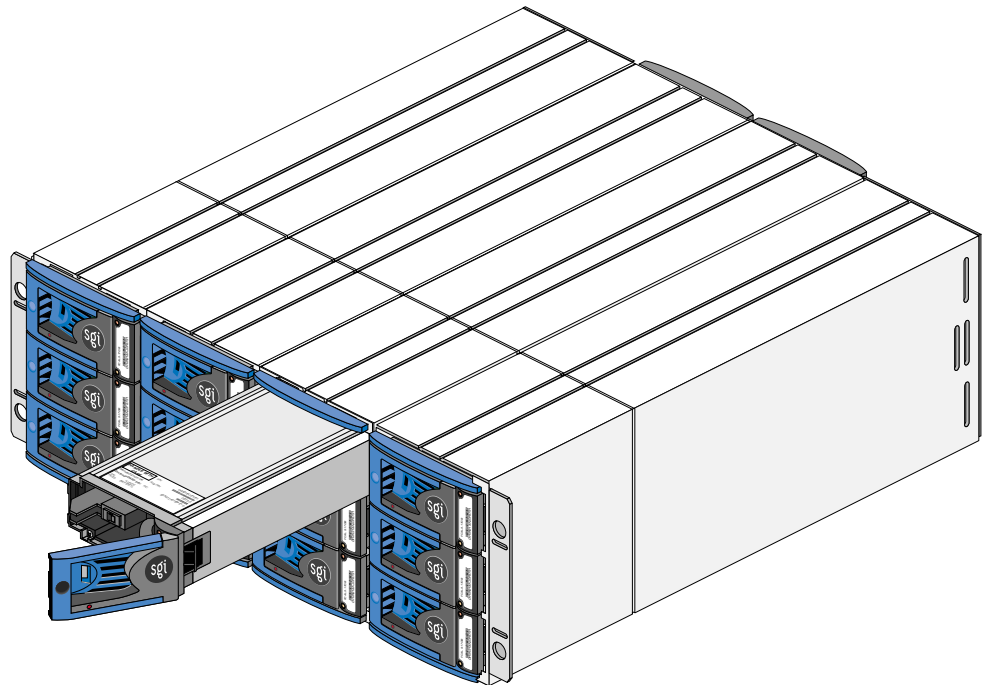
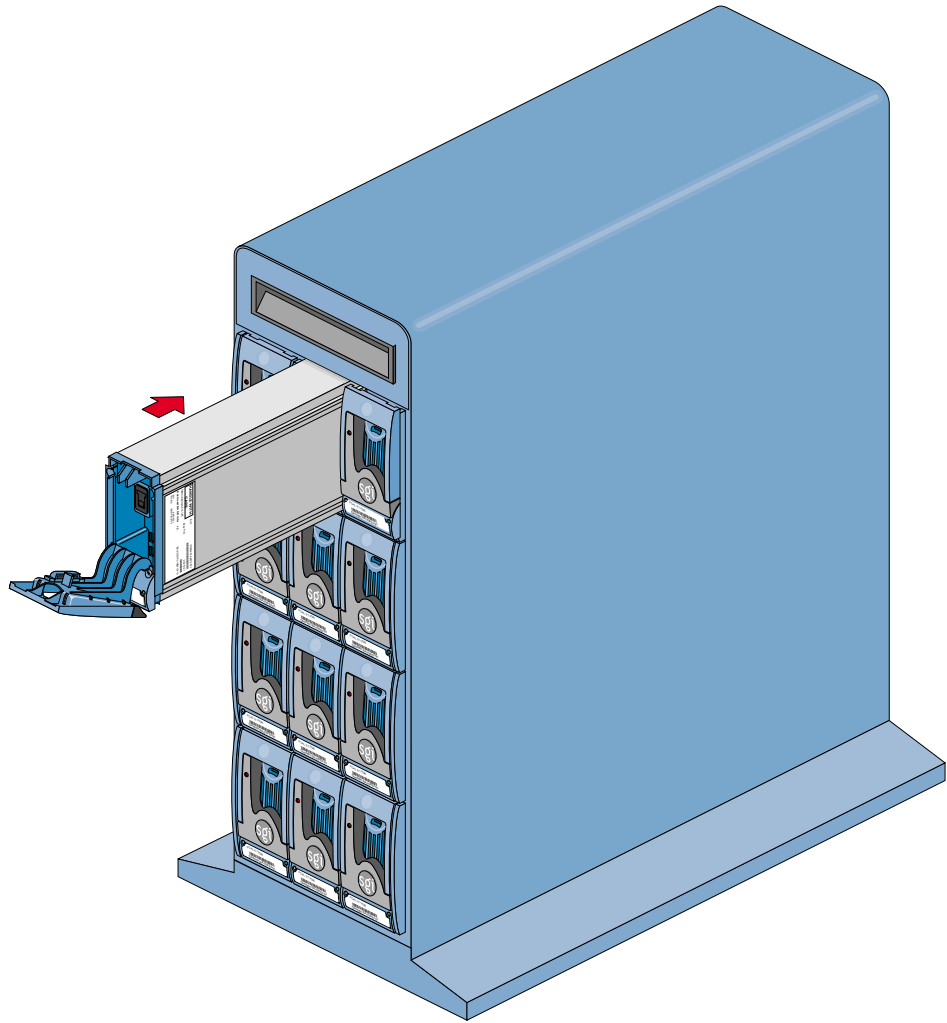

Figure 6-4 Inserting the Disk Drive Module: Rackmount Enclosure
Figure 6-5 Inserting the Disk Drive Module: Tower
5. Insert the disk drive module into the chassis. Figure 6-4 shows the procedure in a rackmount enclosure; Figure 6-5 shows it in a tower.